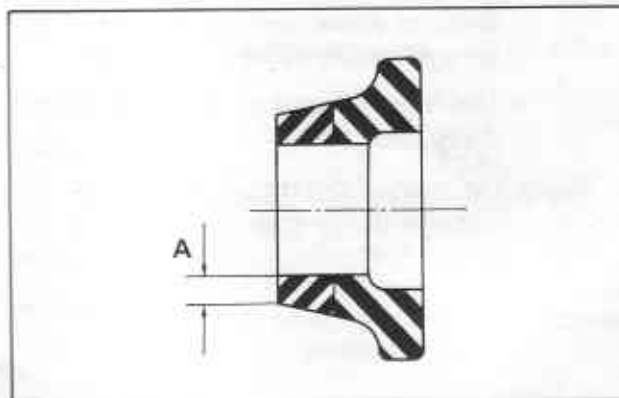

Fig. FA-36 Transverse link bush
2. Check the abrasion of rubber parts, and, if measurement A as shown in Figure FA-36 is less than 1 mm (0.03937 in.), replace the rubber parts with new ones.